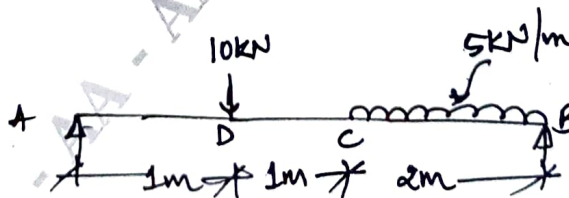

Fig.Q10
- 10 A beam AB of 8m span is simply supported at the ends as shown in Fig.Q10. Determine :